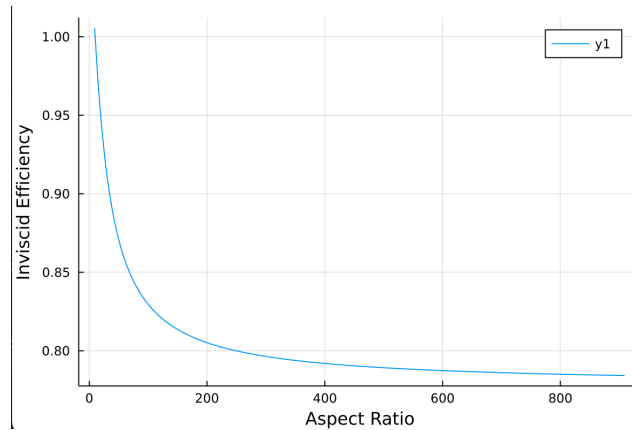
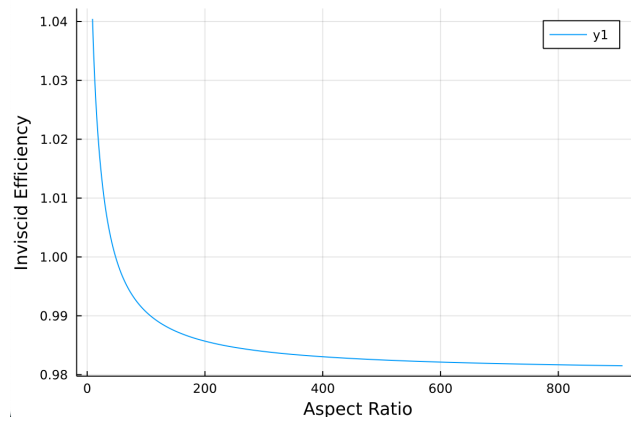

Figure 5: Hershey Bar Wing Efficiencies
Figure 7: Non Hershey Bar Dihedral Efficiencies
- Figures 5,6, and 8 all used hershey bar wings in them. With hershey bar wings, the efficiency can never be higher than one; however, for a non-hershey bar wing like figure 7, it is shown that the efficiency can actually be higher than 1: which explains why most wings are not designed like a rectangle. These non-hershey bar wings can produce a noticeably less amount of drag with respect to lift, which is extremely desirable in aircraft design.